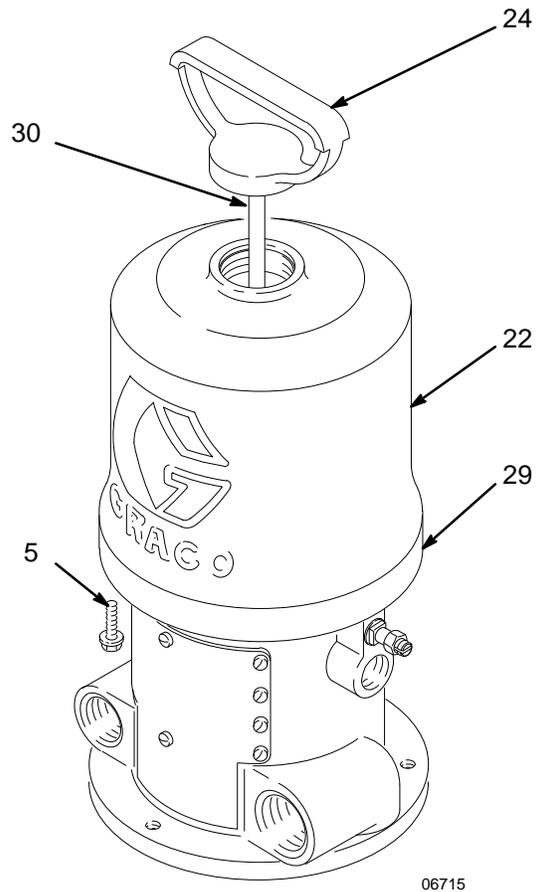

Fig. 2
To reseat the air transfer valves and restart a stalled motor, relieve the air supply pressure to the motor by closing the bleed-type master air valve. If the air transfer valves fail to reseat, screw the cap nut (24) out of the cylinder (22), pull up on the trip rod (30) and screw the cap nut back into the cylinder. See Fig. 2. Be sure the air supply pressure is less than 180 psi (12 bar, 1.2 MPa) before opening the bleed-type master air valve.
Manually push on the piston rod to move the piston to the top of its stroke. Screw the cap nut (24) out of the cylinder (22). Pull up on the cap nut, grip the trip rod (30) with padded pliers (F) and screw the cap nut off of the trip rod. See Fig. 2.
Remove the six screws (5) holding the cylinder (23) to the base (29) and carefully pull the cylinder straight up off of the piston. See Fig. 2.